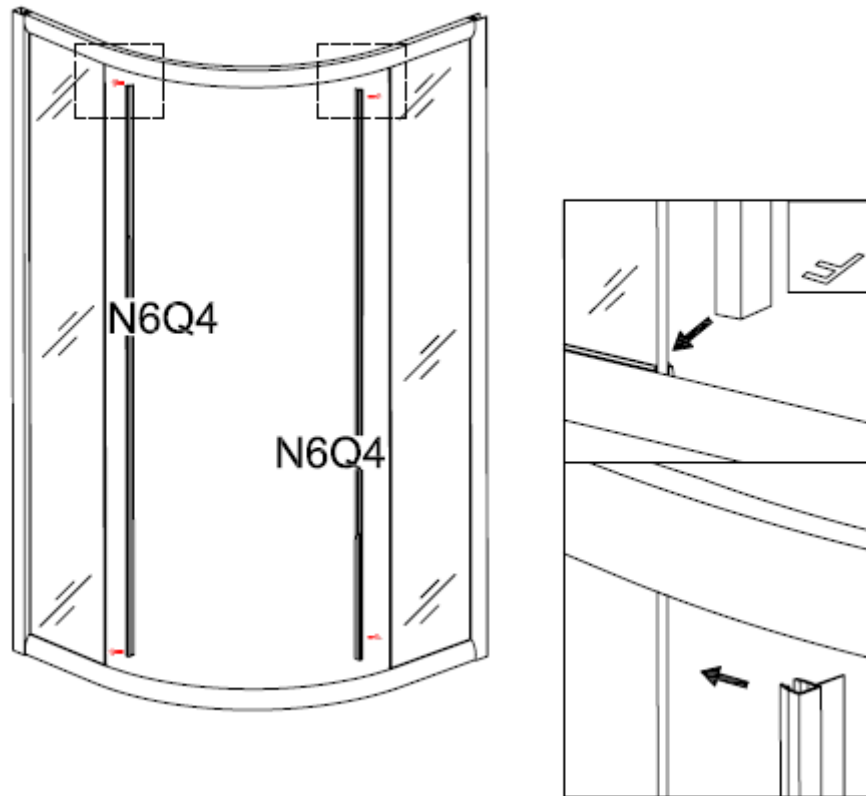

Figure 7
7. Click the strip(N6Q4) to the fixed door,as showed in figure 7.